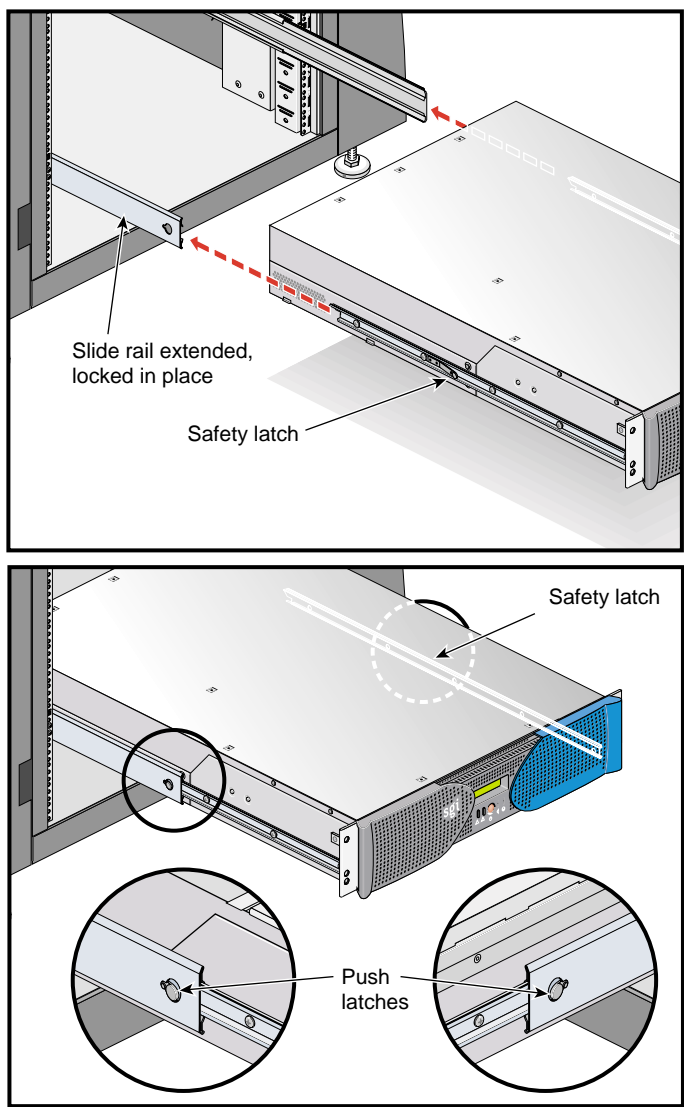

Figure C-13 Pressing the Safety Latches
4. Press the safety latches on both sides of the brick to fully seat the chassis rails into the slide rails (see Figure C-13).